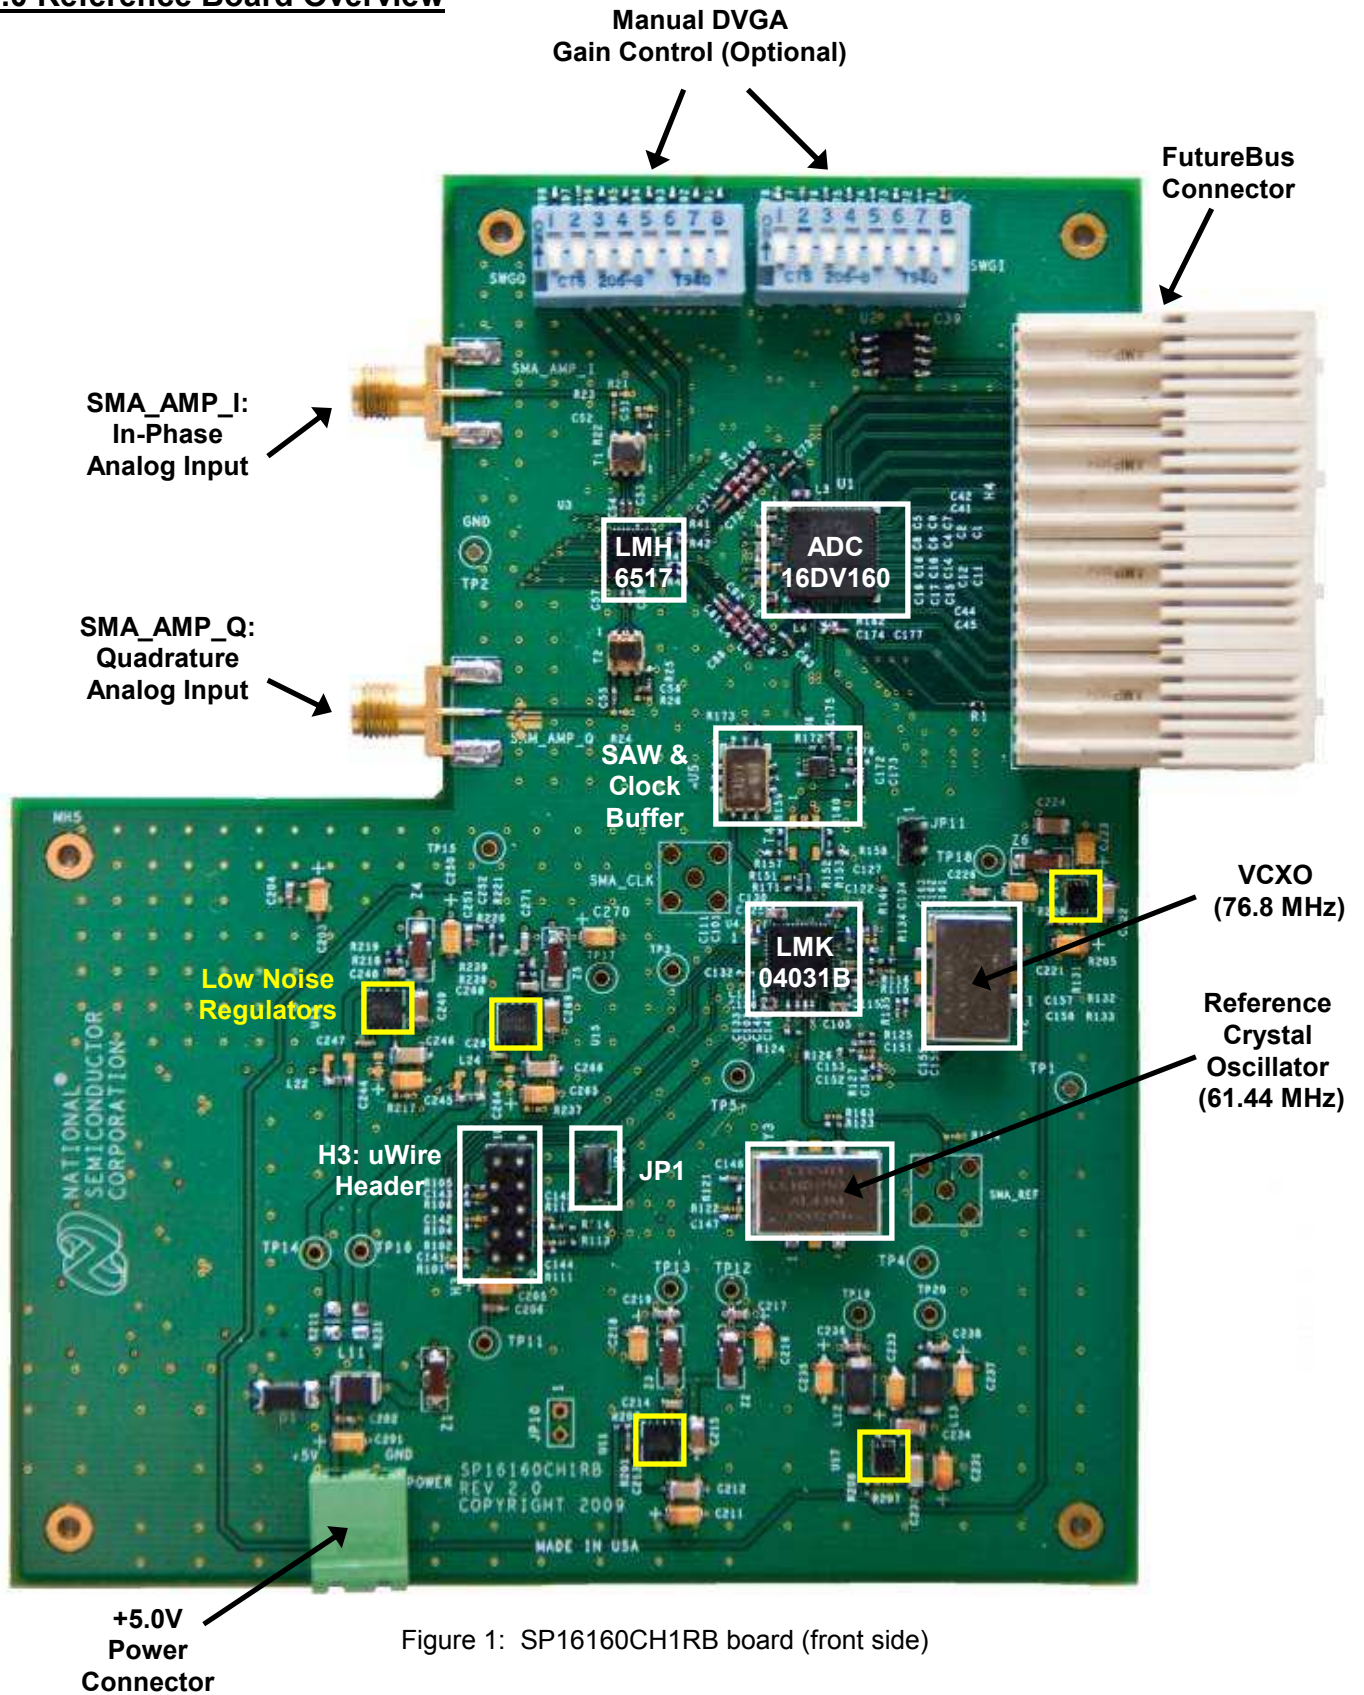
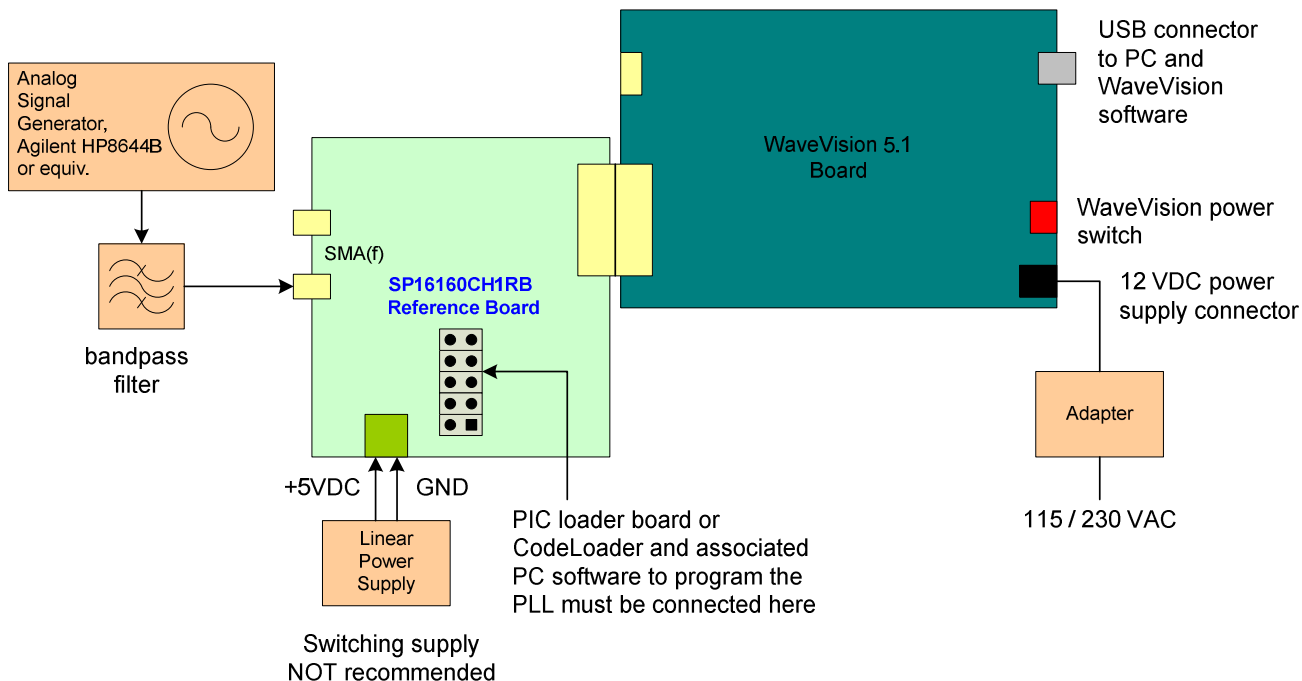

Figure 1: SP16160CH1RB board (front side)
Figure 4: Connection diagram for the SP16160CH1RB board and WaveVision 5.1 data capture hardware
- Connect the WaveVision 5.1 Digital Interface Board to your PC through the supplied USB cable and apply power to the WaveVision 5.1 board through the +12V AC-DC power adapter included in the WaveVision 5.1 hardware kit. The connection diagram is shown in Figure 4.
- Connect the SP16160CH1RB reference board to the WaveVision 5.1 board through the FutureBus connector as shown in Figure 4. The SP16160CH1RB reference board should not be powered up, as the WaveVision hardware does not support hot-swapping of boards.
- Connect a 5.0V power supply capable of sourcing up to 1A to the green, 2-terminal power connector located along the side edge of the SP16160CH1RB board. This is shown in Figure 4. Ensure that the polarity of the wires going to the green power connector match the "+5V" and "GND" labels on the reference board. After the polarity is verified, turn on the 5V supply.
- Connect the signal source to the "SMA_AMP_I" SMA connector indicated in Figure 1. The recommended signal generators are the HP8644B (HP/Agilent) or the SMA100A (Rohde & Schwarz). A bandpass filter between the signal generator output and the SP16160CH1RB SMA connector is required to measure the true performance of the board. A Trilithic bandpass filter is recommended. See Figure 4.